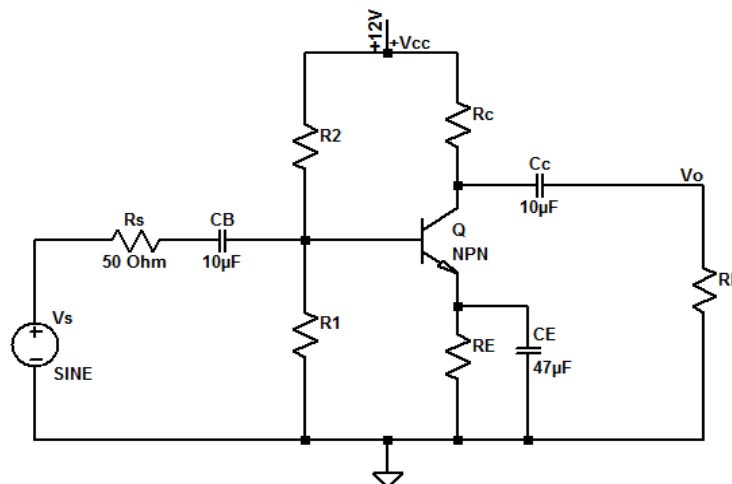

Figure 1. Single stage Common Emitter Amplifier
In this part of the lab, you will design a common emitter BJT amplifier as shown in Figure 1 using a 2N3904 npn transistor from your parts kit. The design specifications are:
(b) Simulate the circuit given in Figure 1, using $\beta=h_{fe}=100$ $V_A=100$ V ($\lambda=0.01$ V⁻¹). You may use PSPICE, LTSPICE or ORCAD simulation tools. The simulation should include DC operating voltages and currents; and an AC frequency response from 10Hz to 10MegHz. In your simulation, adjust the values of R_E and R_C until the gain is -85 V/V.
2. With no AC signal applied to the circuit, connect the DC supply voltage as shown in Figure 1. Using DMM, measure and record all DC node voltages; and collector current in the circuit. At this point, your DC measurements should be very close to the expected DC values given by the simulation. Then, estimate the value of g_m from your DC measurements.